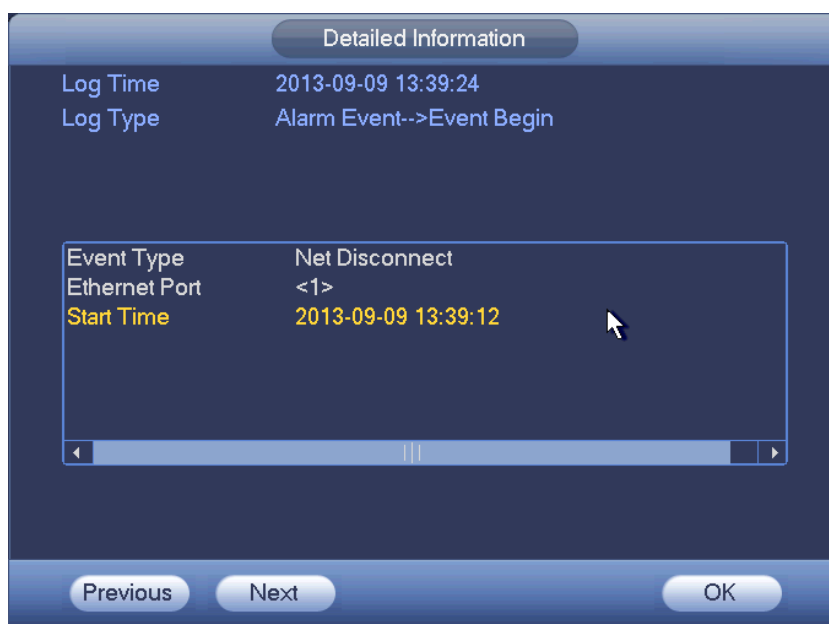

Figure 4-18
- Details: Click the Details button or double click the log item, you can view the detailed information. See Figure 4-18. Here you can use rolling bar to view information, or you can use Page up/Page down to view other log information.